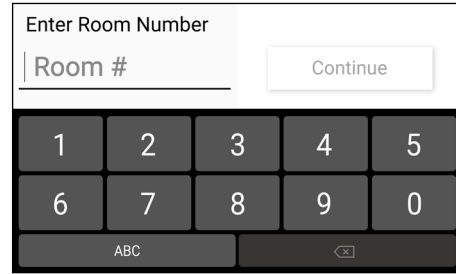

Figure 4. Enter room number screen
1. The Guardian Systems will alert the user if the user does not interact with the enter a room number screen for five (5) minutes. (Fig. 4)
2. It will continue to display the enter room number screen with red status lights and an auditory alert. The auditory alert will last for three (3) minutes.